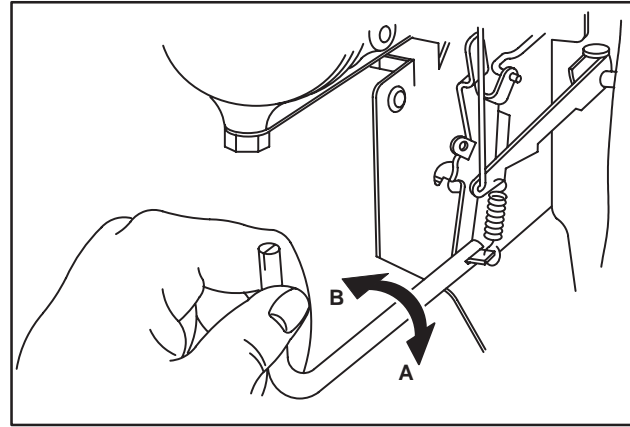
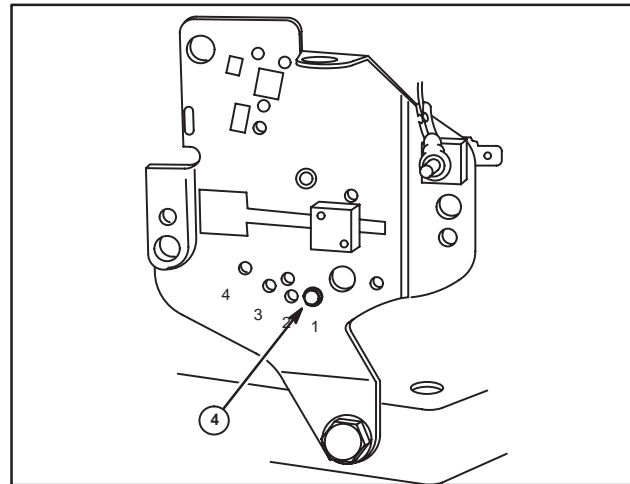

Fig. 29
Fig. 30
- Use Tool #19229, Tang Bending Tool, to bend spring anchor tang to obtain the proper TOP NO LOAD RPM, Fig. 29. For engines using Top Speed Limit Screws, adjust tang to 4000 RPM. Top Speed Limit screw must be removed while adjusting tang.
NOTE: Refer to Figs. 29 and 30 to identify the type of control. Then refer to Table No. 2, Page 28 (Fig. 29) or Table No. 3, Page 28 (Fig. 30) to find correct hole to use after adjusting governor tang, Step 3, and installing Top Speed Limit Screw (4).